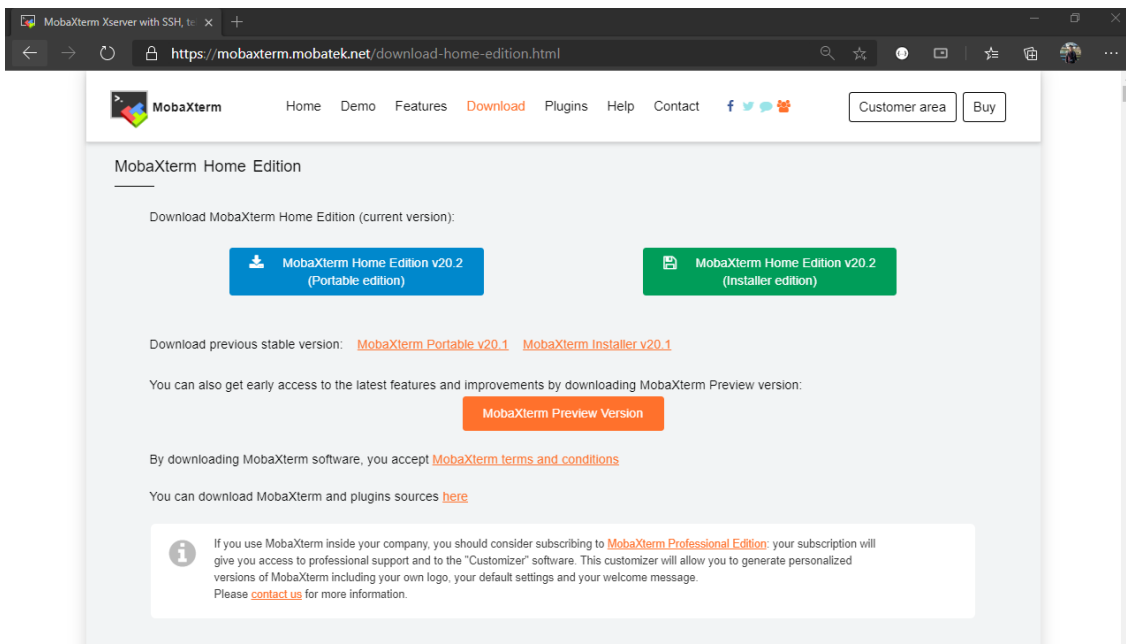

Figure 2-4 MobaXterm Home Edition Download Page
3. At Home Edition download page, click at "MobaXterm Home Edition v20.2 (Installer Edition)" to download the installer as shown in **Figure 2-4**.